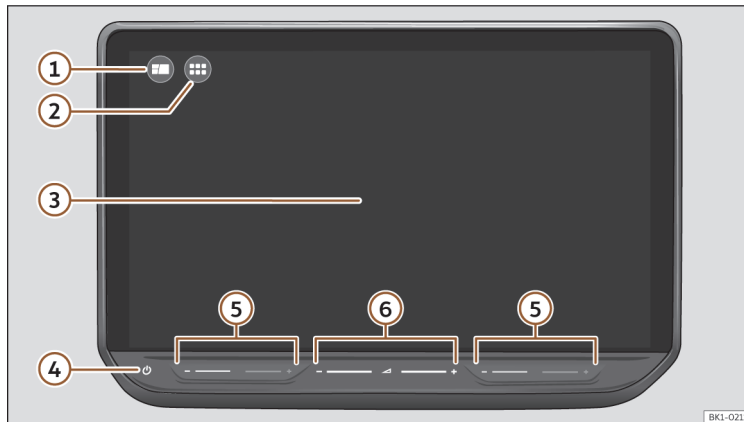

Fig. 176 Overview: control unit
Customise the top menu or the HOME >>> Fig. 176 ① view to quickly access your favourite or most frequently used functions.